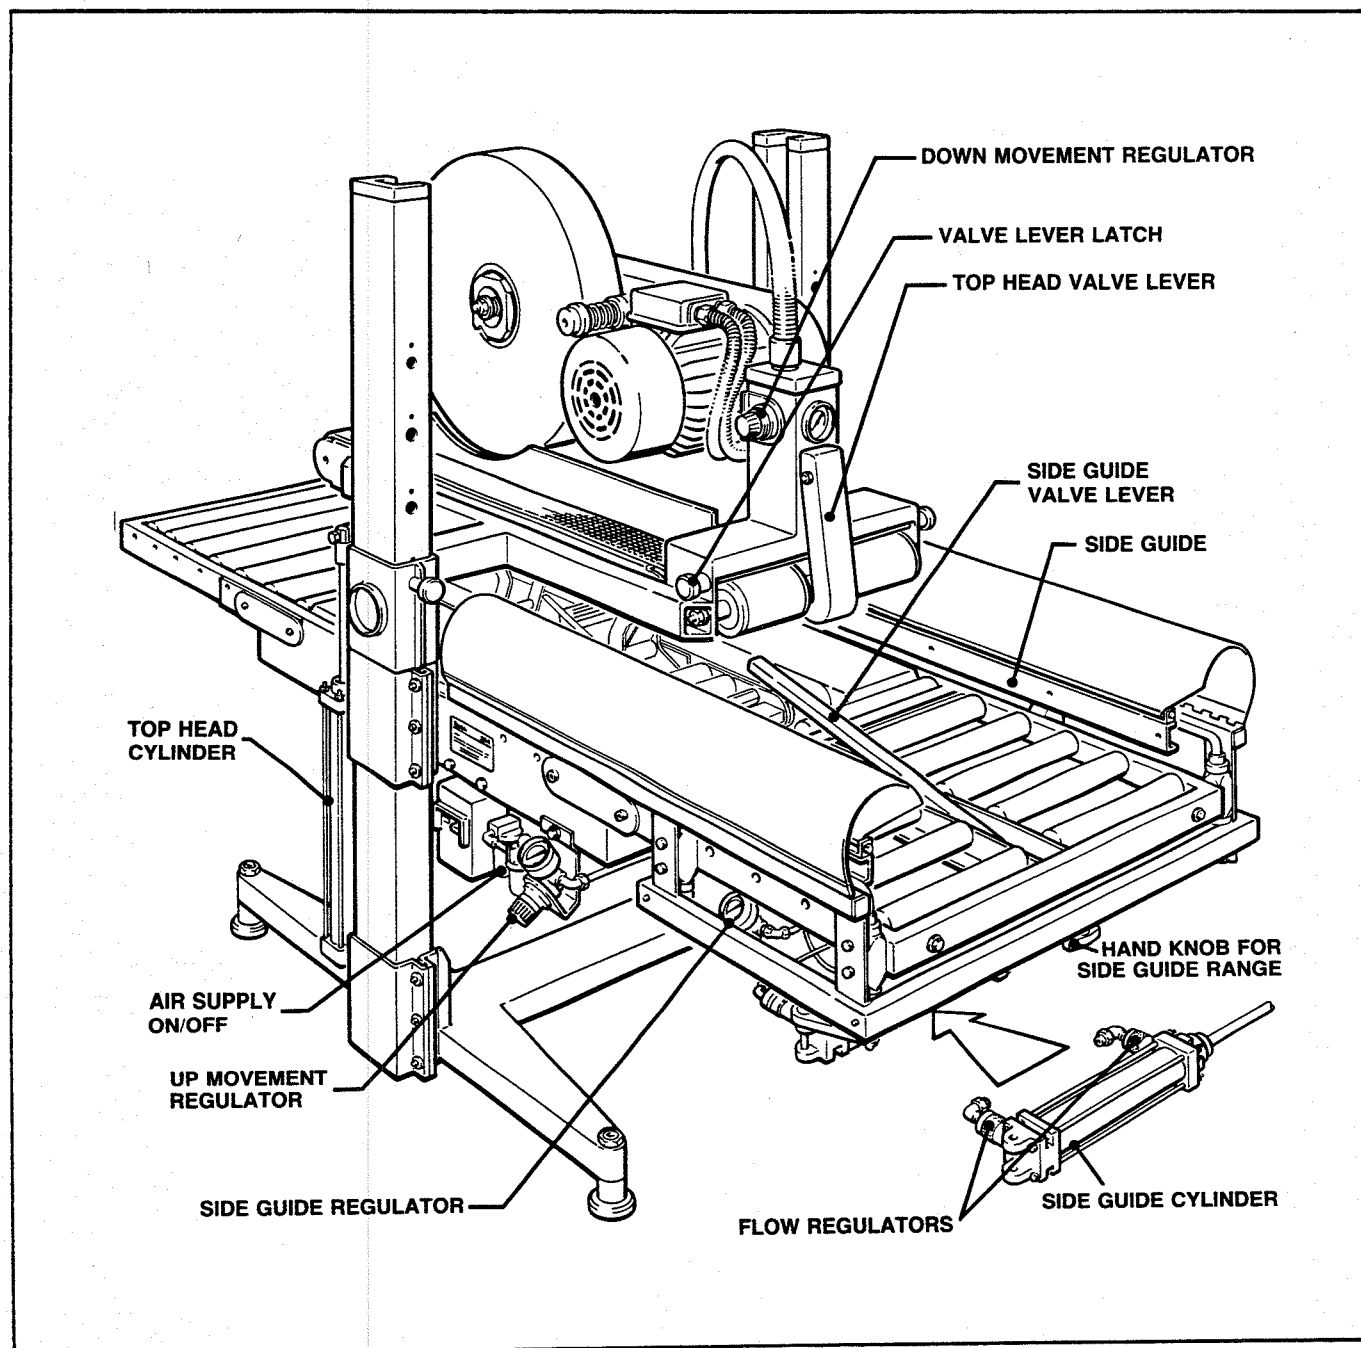

Figure 1 - Set-Up Instructions - Case Sealer Components - Left Front View
2. **Air Cylinder Flow Regulator** (Refer to Figure 1) - Flow regulators are located on the ports of the air cylinder that powers the side guides. These control the speed with which the side guides close and open. The regulator on the clevis end of the cylinder controls the closing speed and the regulator on the rod end of the cylinder controls the opening speed. The movement speed is decreased by screwing the regulator knurled collar towards the cylinders, increased by screwing the regulator knurled collar away from the cylinder.